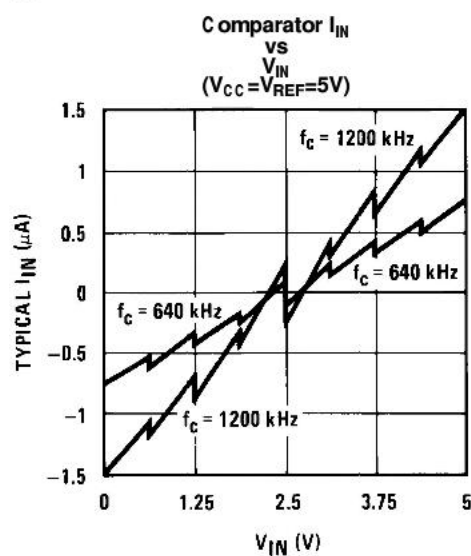

Figure 8.
- (2) Two on-chip diodes are tied to each analog input which will forward conduct for analog input voltages one diode drop below ground or one diode drop greater than the V_{CC} supply. The spec allows 100 mV forward bias of either diode. This means that as long as the analog V_{IN} does not exceed the supply voltage by more than 100 mV, the output code will be correct. To achieve an absolute 0V_{DC} to 5V_{DC} input voltage range will therefore require a minimum supply voltage of 4.900 V_{DC} over temperature variations, initial tolerance and loading.
- (3) Comparator input current is a bias current into or out of the chopper stabilized comparator. The bias current varies directly with clock frequency and has little temperature dependence (Figure 8). See ANALOG COMPARATOR INPUTS
The average value of the comparator input current varies directly with clock frequency and with V_{IN} as shown in Figure 8.